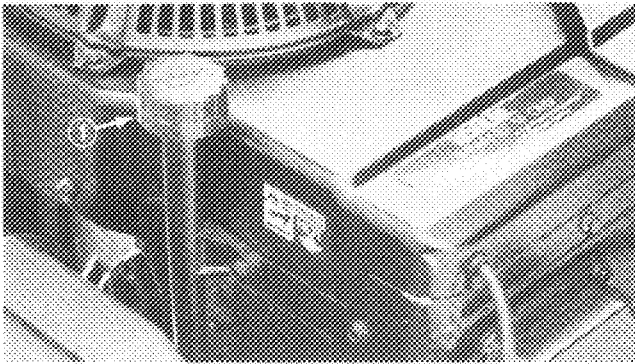

Figure 10
3. Remove dipstick (Fig. 10).
5. Wipe end of dipstick with clean rag and insert it into filler neck. Then remove the dipstick and check level of oil by reading the dipstick (Fig. 10). If level of oil is low, add only enough oil to raise level to FULL mark on dipstick. DO NOT ADD OIL SO LEVEL RISES ABOVE FULL MARK BECAUSE ENGINE COULD BE DAMAGED WHEN IT IS STARTED.